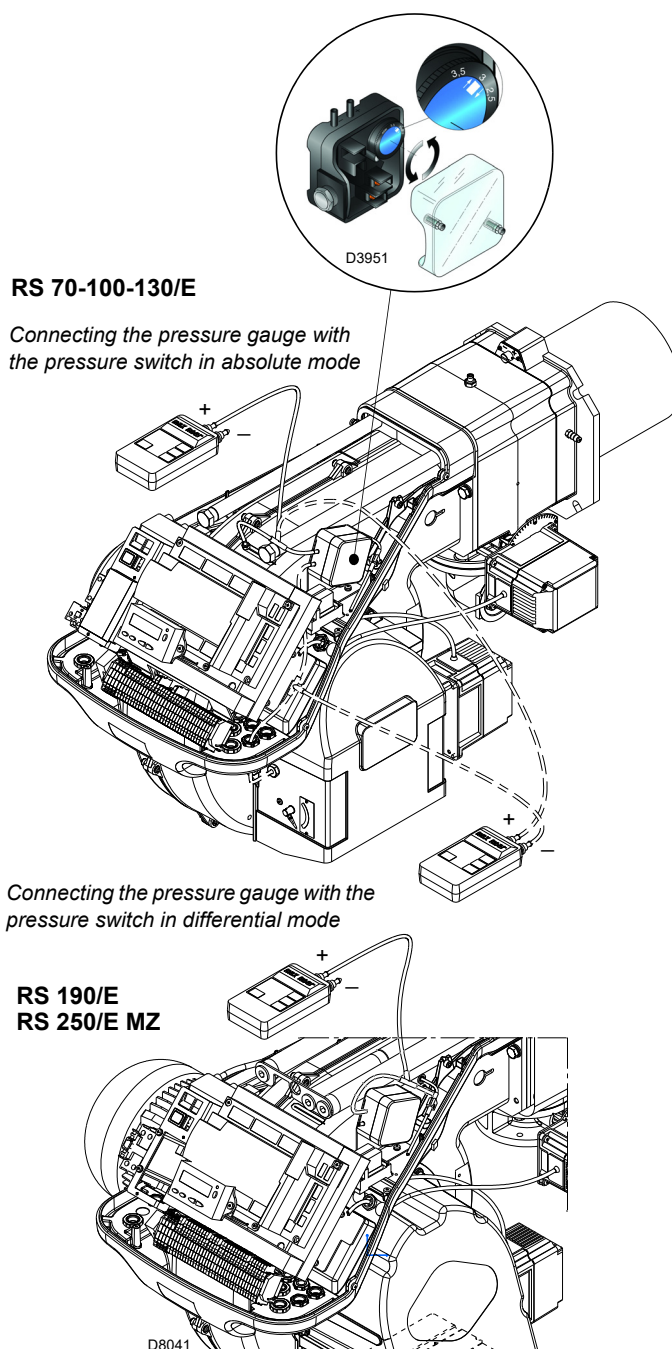

Fig. 31
- Adjust the air pressure switch (Fig. 31 at page 35) to the start of the scale.
Adjust the air pressure switch (Fig. 31) after having performed all other burner adjustments with the air pressure switch set to the start of the scale.
The connection of the pressure gauge is shown in Fig. 31. The standard configuration is that with the air pressure switch connected in absolute mode. Note the presence of a "T" connection, not supplied.
In this case also, the pressure gauge must be connected in differential mode, as shown in Fig. 31.